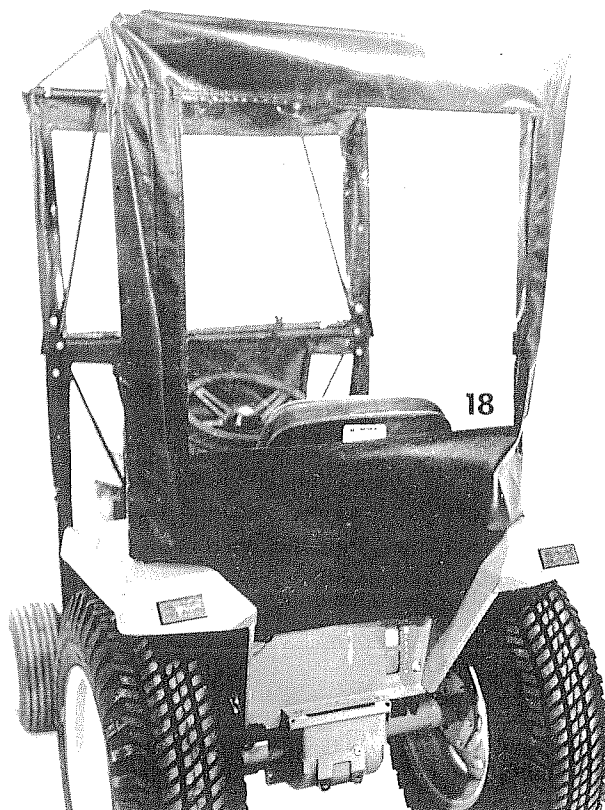

FIGURE 8
STEP 8; SEE FIGURE 8:
- A. Tilt the seat up. Snap the REAR CURTAIN (18) into position around the top frame and rear posts. Lay the vinyl flap at the bottom between the frame and the seat.